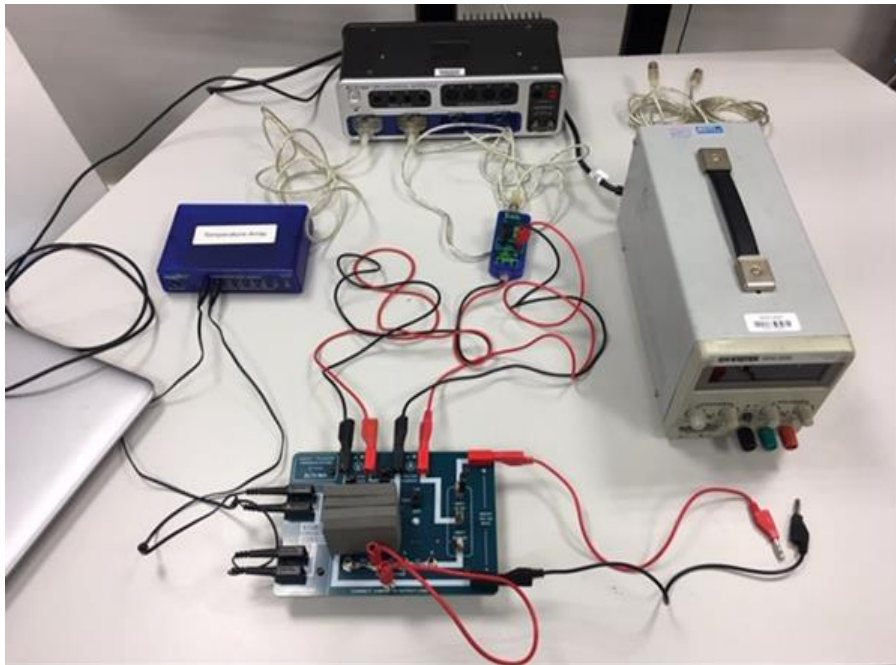

Figure 1: Experimental setup
4. Connects cables to quad temperature sensor from the temperature port. Also, link the cold side to sensor channel 1 and the hot side to the channel B as shown in figure 1.